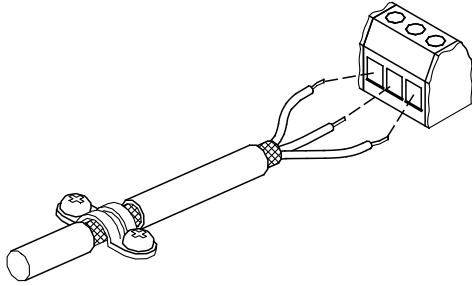

Fig. 13 Stripped cable with screen and wire connections
- Connect the screens of the cables to frame at both ends with good connection. The screens must be as close as possible to the terminals. See fig. 13.